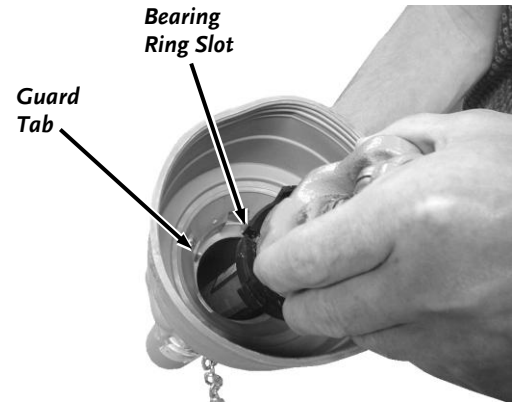

Figure 19
7. Insert the Shaft Halves into the Guards making sure that the Bearing Ring Slot lines up with the Tab on the inside of the Guards for proper installation (**Figure 19**).